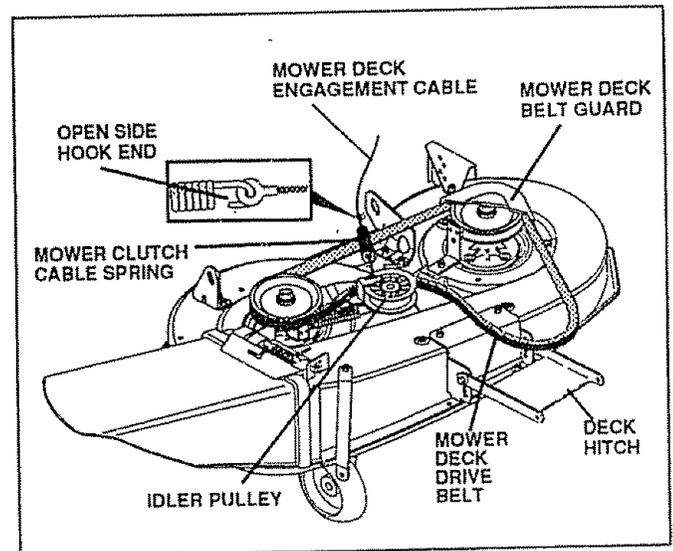

FIG. 23
- Disconnect mower deck engagement cable from mower clutch cable spring (see Fig. 23).
- From left side of tractor, slide deck rearward. Then connect mower deck engagement cable to mower clutch cable spring (see Fig. 23). Be sure open side of spring end is pointed down (see Fig. 23 inset)